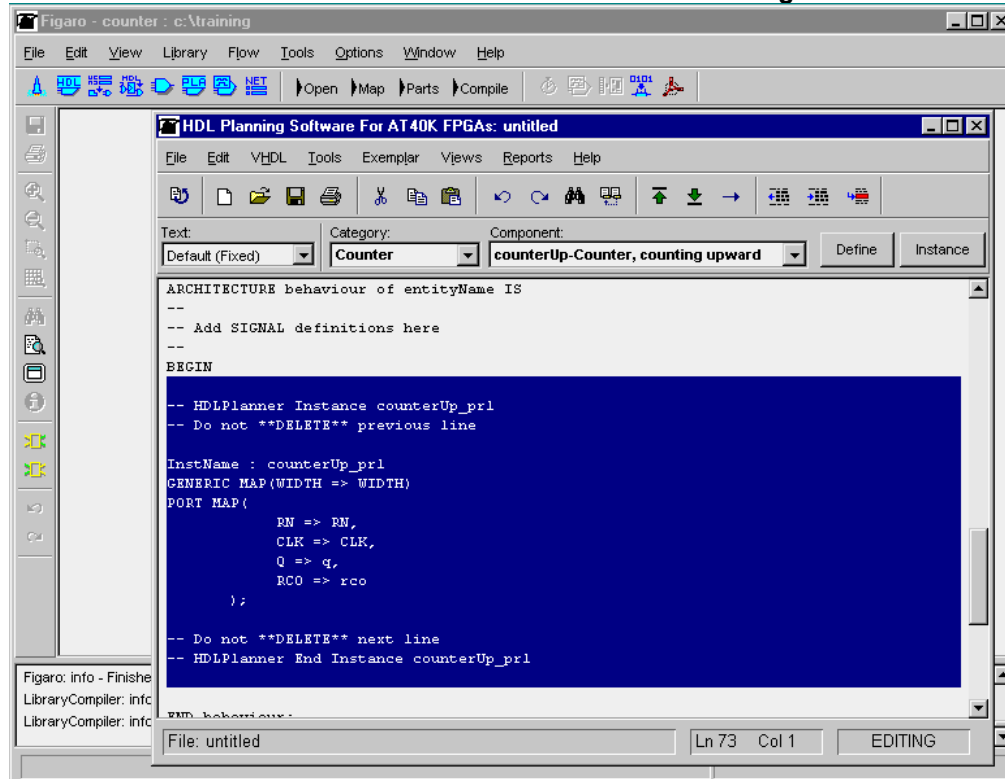

Figure 33 Signal Definitions
4. Scroll down to the bottom of the file and select as shown in **Figure 33**.